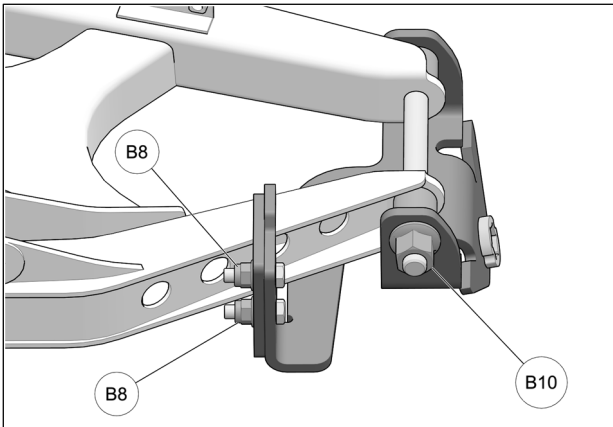

Fig. 11
12. Tighten M14 nut (B10) to 95 N•m [70 lb•ft] of torque and then M8 nuts (B8) to 25 N•m [18 lb•ft]. See Fig. 11